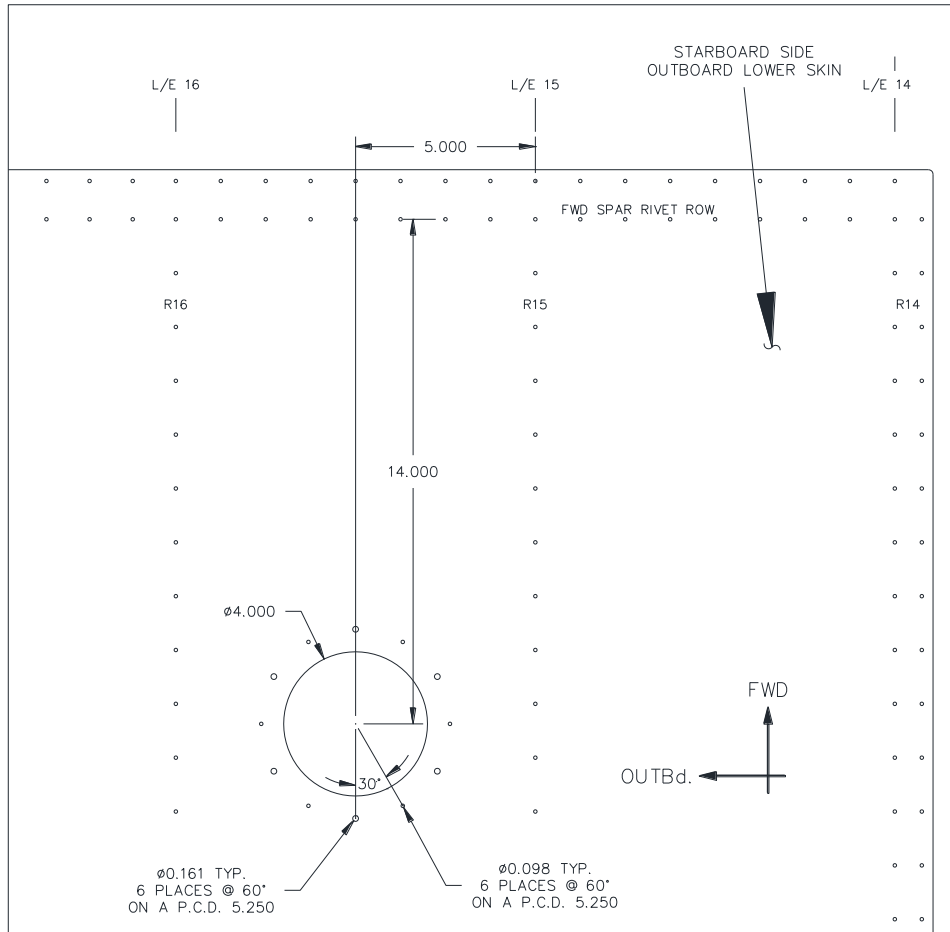

Figure 1: View looking up on Starboard Side Outboard Lower Skin
1.1. Cut a 4" hole on the starboard wing lower skin surface in accordance with Figure 1 below.